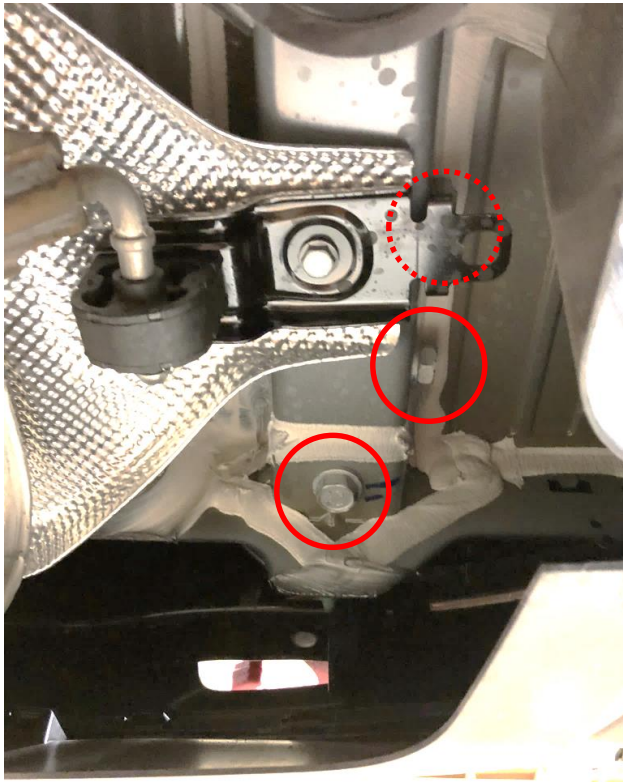

Figure 5
1. **Loosen wheel well liners** - use 8 mm and 10 mm socket to remove (3) screws and (1) plastic flange nut from wheel well liners each side.
2. **Remove existing M14 factory bolts** – use 21 mm socket to remove (3) M14 factory bolts from frame rails per side, (1) from the bottom and (2) from the side, see **Figure 5**. Save for reinstallation.
1. Loosen wheel well liners - use 8 mm and 10 mm socket to remove (3) screws and (1) plastic flange nut from wheel well liners each side.
2. Remove existing M14 factory bolts – use 21 mm socket to remove (3) M14 factory bolts from frame rails per side, (1) from the bottom and (2) from the side, see Figure 5. Save for reinstallation.